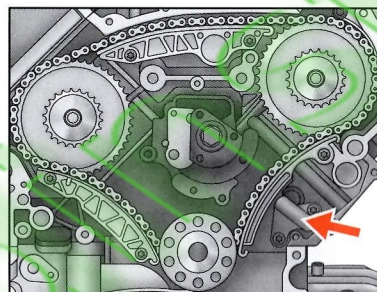

Fig.53
- (2) Release the timing chain tensioner by removing the tensioner retaining pin. (Fig.53)